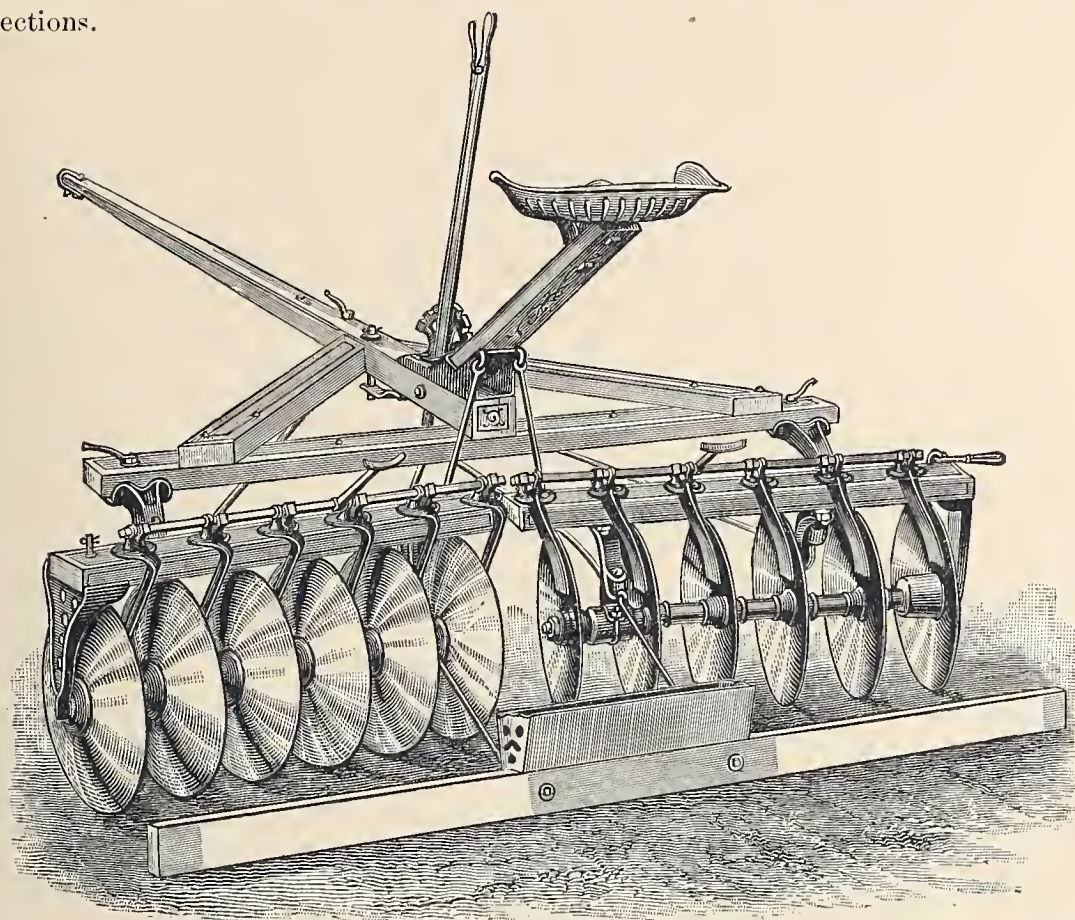

Fig. B 311.—Warrior Harrow, adjusted to throw the soil towards the centre.
*The Warrior Harrow, Figs. B 311 and B 312*, combines all the good points of Disk Harrows in general, and in addition it has many others which they do not possess. It is a perfectly flexible harrow, working equally as level without a stiffener as with, in all conditions of the surface. It is furnished with a lever by which the angle of the gangs can be changed without dropping the lines or leaving the seat. The disk gangs are connected to the main frame with a ball-and-socket joint in such a manner that each gang is free to conform to the uneven surface of the ground.